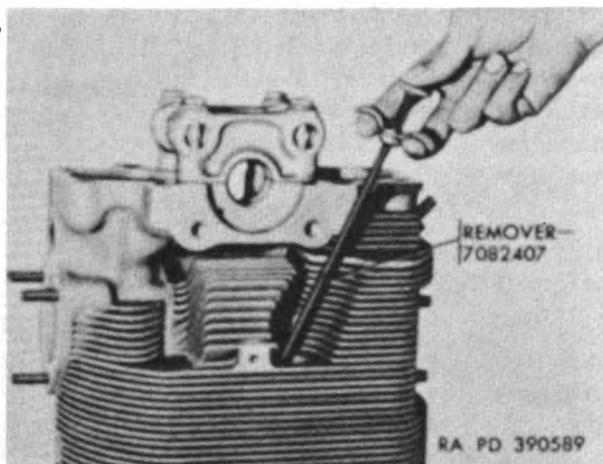

Figure 85. Removing tang from Heli-coil threaded insert.
- (h) Using remover 7082407 as shown in figure 85, break off and remove tang from inner end of insert.